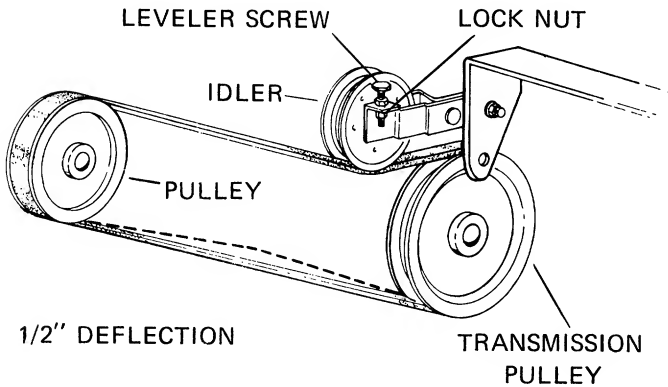

FIG. 8
**Removal** — Screw the leveler screw all the way in until the idler is loose and remove the belt. (see Fig. 8)